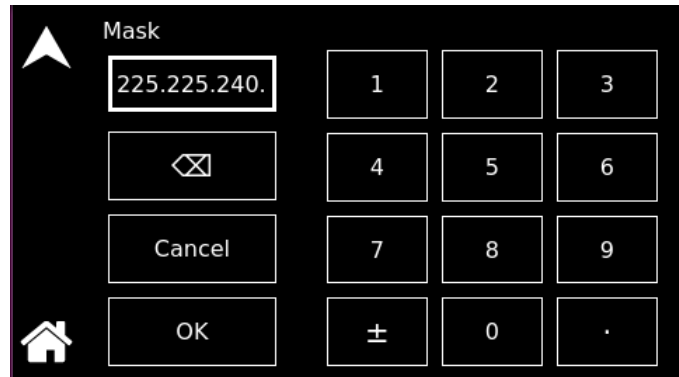

**Figure 12-45. LAN Screen - Subnet Mask**
- **Subnet Mask:** Sets the subnet mask for use in static IP configuration. Refer to Figure 12-45.